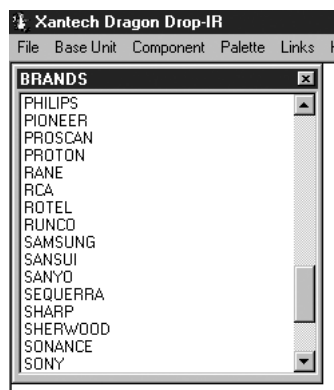

Figure 10 - Brands
2. Locate and Select (single click) the desired BRAND as shown in **Figure 10** (i.e. Sony, Panasonic etc). A list of Components will appear. (See later sections for adding brands.)